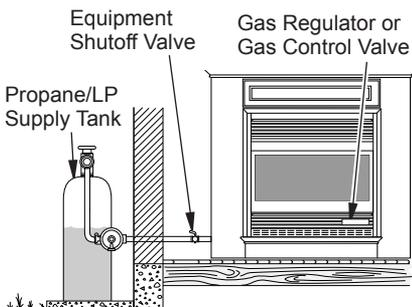

Figure 25 - Checking Gas Joints (Propane/LP Only)
3. Check all joints from gas meter to equipment shutoff valve for natural gas or propane/LP supply to equipment shutoff valve for propane/LP (see Figures 25 or 26). Apply noncorrosive leak detection fluid to all joints. Bubbles forming show a leak.
4. Check all joints from equipment shutoff valve to gas regulator (Thermostat-Controlled Models) or to gas control valve (Remote-Ready Models) (see Figures 25 or 26). Apply noncorrosive leak detection fluid to all joints. Bubbles forming show a leak.